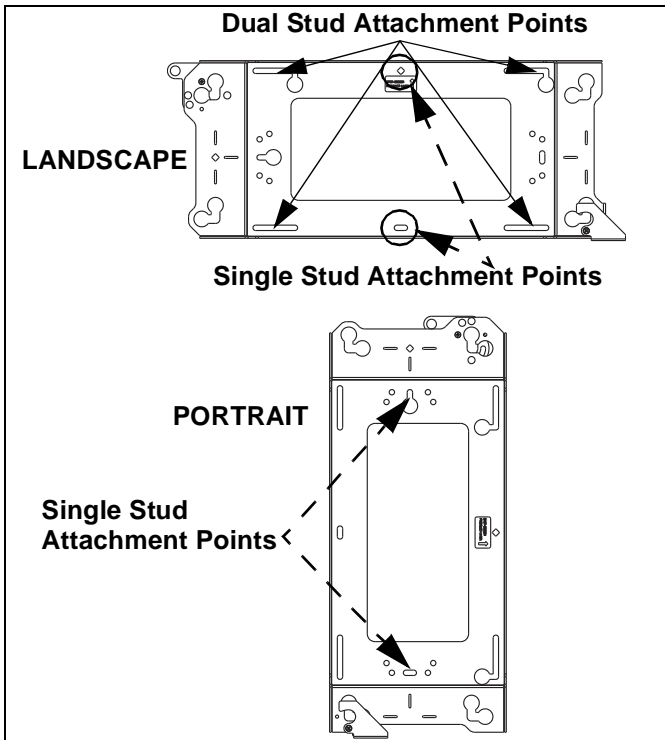

Figure 5
2. Level and adjust PSMH2860 making certain slots in upper and lower horizontal brackets are properly positioned over studs for either a single stud installation (landscape or portrait) or a dual stud installation (landscape only). (See Figure 5)
3. Mark the location of four mounting holes (or two mounting holes for single stud mounting holes) onto wall. (See Figure 5)